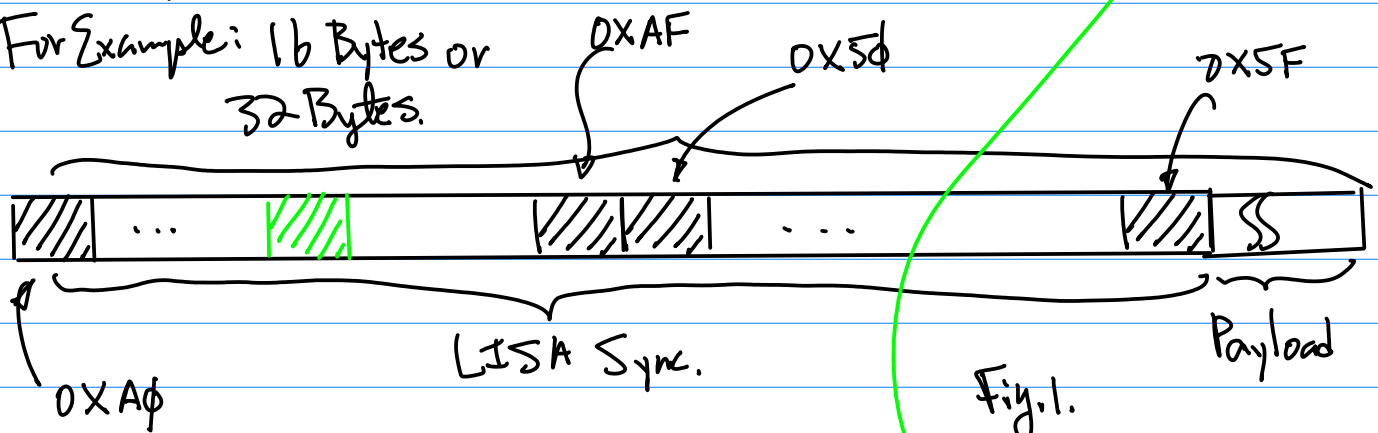

Fig. 1.
We would like to Extend this Implementation to Allow a Single Byte (as "Green" in Fig. 1. Matching to the LISA Sync Field to Establish Synchronization.
Step 3. Add Random Noise to Fig. 1. then move (2) at the beginning bit (1st Bit) of (1). Such as